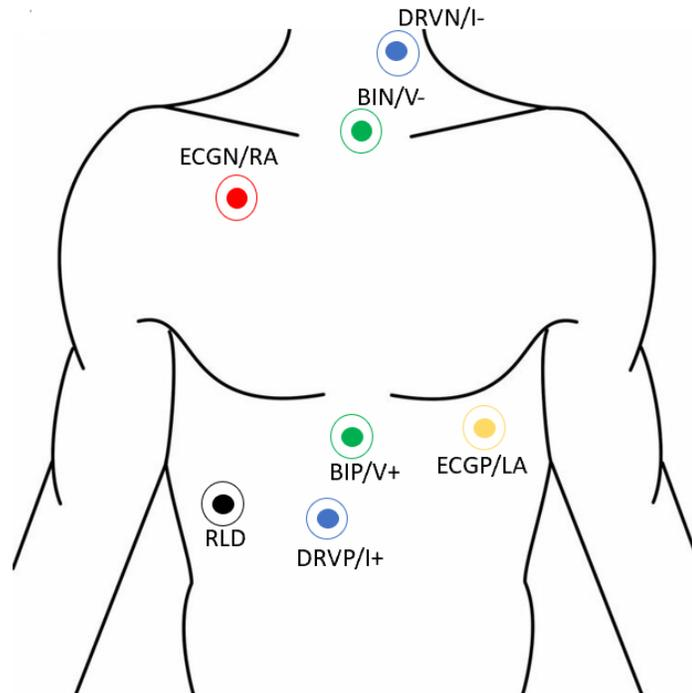

Figure 38. Placing the ICG Electrode
- ▶ Ensure the electrodes are attached securely on the chest (Figure 38), the patch is powered on, and connected to the GUI.